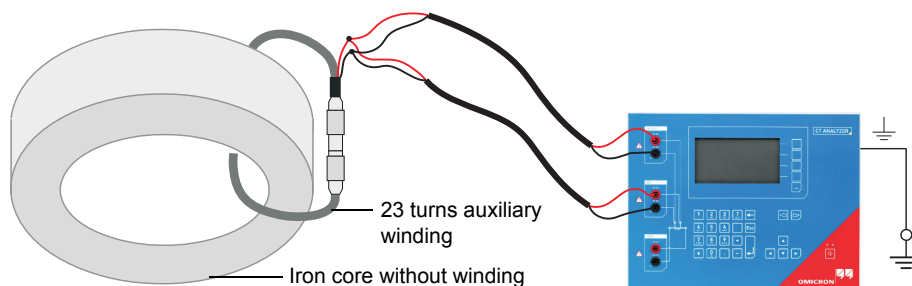
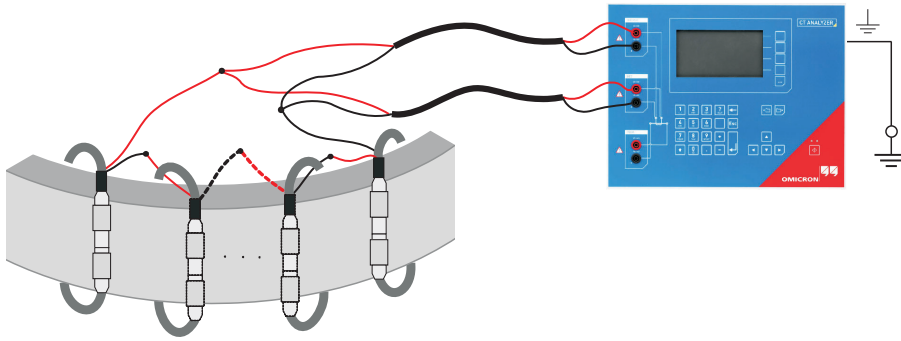

Figure 3-7: Excitation curve measurement using one "auxiliary winding" cable
Figure 3-8: Excitation curve measurement using several cascaded "auxiliary winding" cables
Proceed as follows to perform the measurement (refer to Figure 3-7 and Figure 3-8). Observe the general safety rules in section 3.1 on page 23 and the safety instructions given in chapter 1 "Safety instructions" on page 9.
2. Connect the *CT Analyzer* OUTPUT sockets and input SEC to the cable as shown in Figure 3-7. For cores that require high currents to reach the knee point, several cables can be cascaded to increase the number of turns, see Figure 3-8.